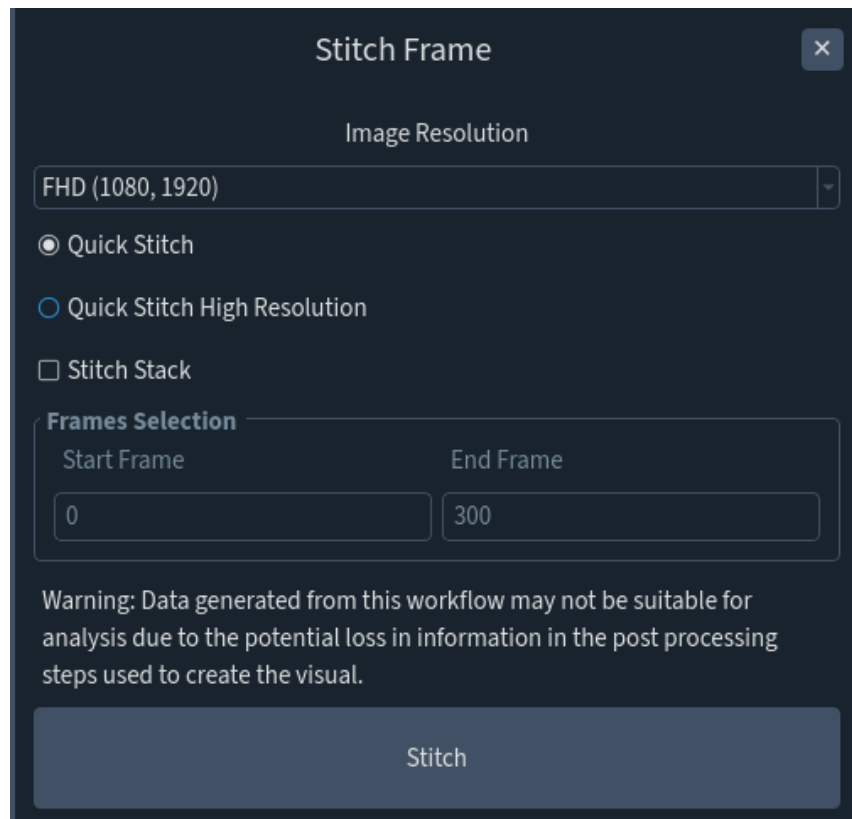

Fig 77: stitching panel.
- 2) The stitching panel will pop up on the right side of the viewer (Fig 77).